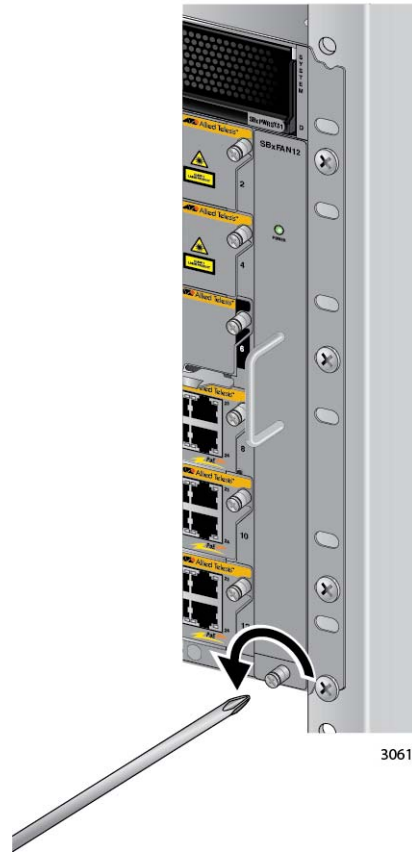

Figure 161. Loosening the Screw on the AT-SBxFAN12 Fan Module
2. Use a #2 Phillips head screwdriver to loosen the screw at the base of the fan module. Refer to Figure 161 on page 255.